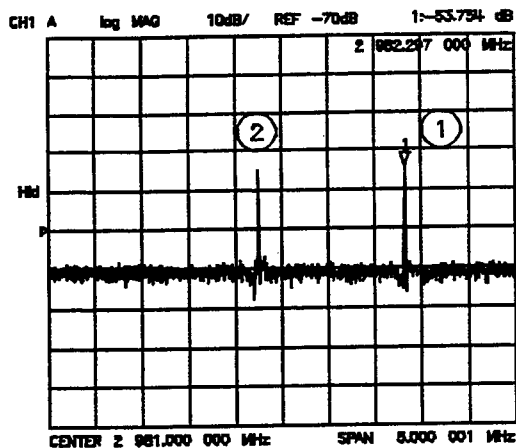

Figure 26. Target Spur is on Right in Typical Display of Spurs with Filter
6. Press **[EXECUTE TEST] [YES] [CONTINUE]** and the other softkeys as required to observe and mark the target spur. With the filter, the target spur will appear to the right of a second spur, similar to Figure 26.